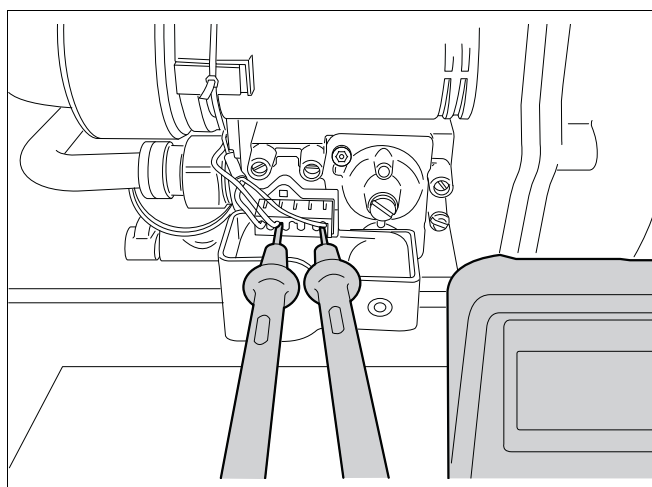

fig. 33 Voltage testing on the gas control valve
- Use a volt-ohm-multimeter to check that, while operating code  is displayed, there is a voltage on the plug of the gas control valve. The test must indicate a voltage of 20 – 24 VDC both when testing on the central and left contacts and when testing on the central and right contacts (see fig. 33).